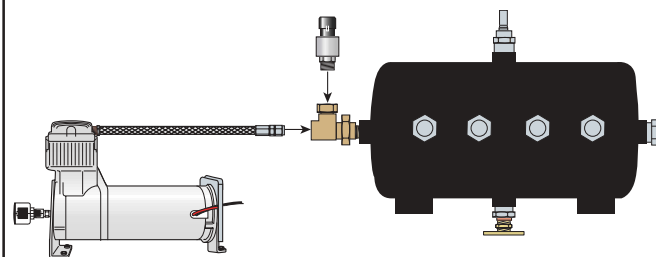

Figure 3
3. Replace the pressure switch with the transducer (Figure 3).
4. Attach the steel braided leader hose from the compressor directly into the tee at the end of the air tank as shown in Figure 3.